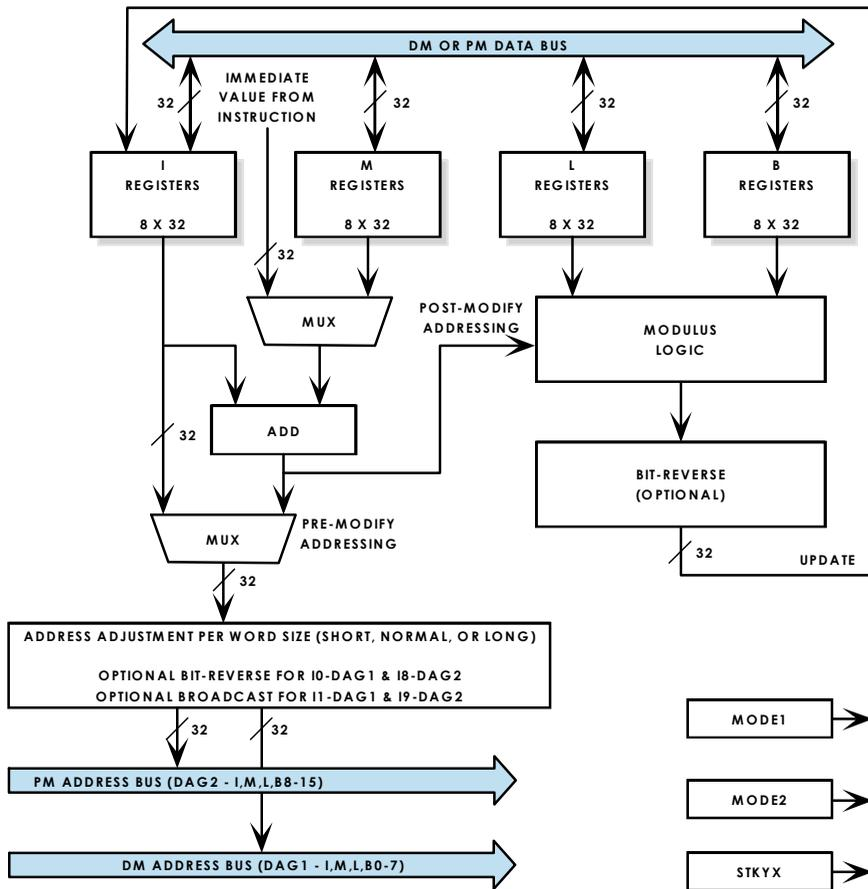

Figure 4-1. Data Address Generator (DAG) Block Diagram
The DSP's Data Address Generators (DAGs) generate addresses for data moves to and from Data Memory (DM) and Program Memory (PM). By generating addresses, the DAGs let programs refer to addresses indirectly, using a DAG register instead of an absolute address. The DAGs architecture, which appears in Figure 4-1, supports several functions that minimize overhead in data access routines. These functions include:
As shown in Figure 4-1, each DAG has four types of registers. These registers hold the values that the DAG uses for generating addresses. The four types of registers are:
The DSP's DAGs perform several types of operations to generate data addresses. As shown in Figure 4-1 on page 4-3, the DAG registers and the `MODE1`, `MODE2`, and `STKYx` registers all contribute to DAG operations. The following sections provide details on DAG operations:
An important item to note from Figure 4-1 is that the DAG automatically adjusts the output address per the word size of the address location (short word, normal word, or long word). This address adjustment lets internal memory use the address directly.
The DAGs support addressing circular buffers—a range of addresses containing data that the DAG steps through repeatedly, “wrapping around” to repeat stepping through the range of addresses in a circular pattern. To address a circular buffer, the DAG steps the index pointer (I register) through the buffer, post-modifying and updating the index on each access with a positive or negative modify value (M register or immediate value). If the index pointer falls outside the buffer, the DAG subtracts or adds the length of the buffer from or to the value, wrapping the index pointer back to the start of the buffer. The DAG's support for circular buffer addressing appears in Figure 4-1 on page 4-3, and an example of circular buffer addressing appears in Figure 4-4.
Circular buffering may only use post-modify addressing. The DAG's architecture, as shown in Figure 4-1 on page 4-3, cannot support pre-modify addressing for circular buffering, because circular buffering requires that the index be updated on each access.